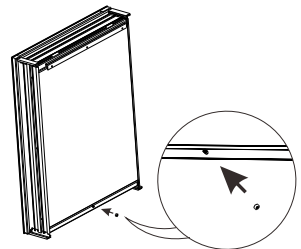

Fig.10
- 1.3 Lock the nut back to the screws (Fig.10).